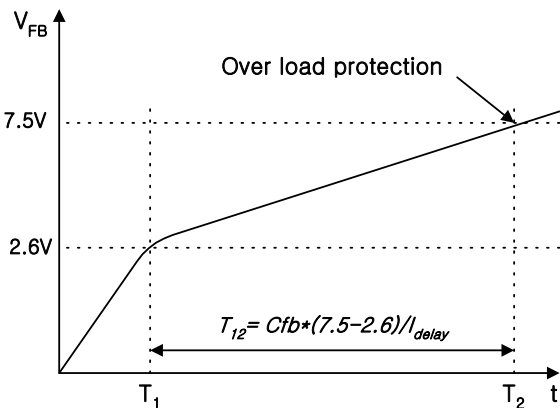

Figure 19. Over Load Protection
Overload means that the load current exceeds a pre-set level due to an abnormal situation. In this situation, the protection circuit should be activated to protect the SMPS (Switch Mode Power Supplies). However, even when the SMPS is in normal operation, the over load protection circuit can be activated during the load transition. To avoid this undesired operation, the over load protection circuit is designed to be activated after a specified period to determine whether it is a transient situation or an overload situation. Because of the pulse-by-pulse current limit capability, the maximum peak current through the SMPS is limited, and therefore the maximum input power is restricted with a given input voltage. If the output consumes beyond this maximum power, the output voltage ( $V_o$ ) decreases below the set voltage. This reduces the current through the opto-coupler diode which also reduces opto-coupler transistor current increasing  $V_{fb}$ . If  $V_{fb}$  exceeds 2.6V, D1 is blocked and the 5mA current source starts to charge  $C_{fb}$  slowly compared to when the 0.9mA current source charges  $C_{fb}$ . In this condition,  $V_{fb}$  continues increasing until it reaches 7.5V, and the switching operation is terminated at that time as shown in Figure 19. The delay time for shutdown is the time required to charge  $C_{fb}$  from 2.6V to 7.5V with 5mA. When  $C_{fb}$  is 10nF (103),  $T_{12}$  is approximately 9.8ms and when  $C_{fb}$  is 0.1mF (104),  $T_{12}$  is approximately 98ms. These values are enough to prevent SMPS from being shut down during transient situations.